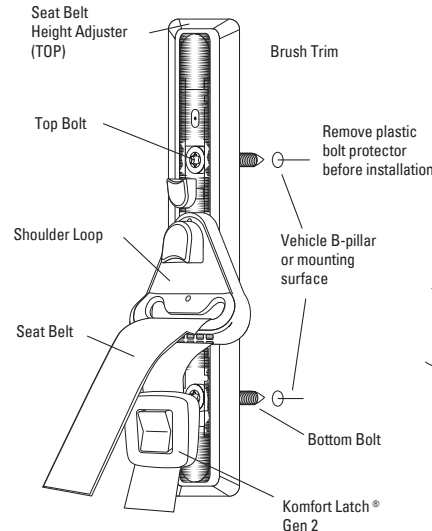

Fig. 4
2. Align seat belt height adjuster bolts with 2 threaded mounting holes in vehicle B-pillar or mounting surface. See **Fig. 4**.